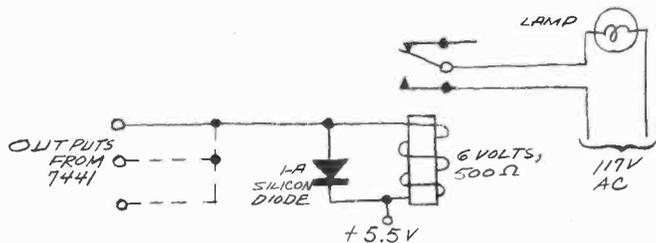

Fig. 5. As many as 10 relays can be used to control various home appliances.
**Burglar Deceiver.** Now that you know how to build both a programmable square-wave generator and a fairly fancy LED flasher, how do you "randomly" switch your house lights and perhaps a radio on and off to keep the burglars away? Simply increase  $C1$  to  $50\ \mu\text{F}$  and  $R1$  to 10 megohms to get a clock cycle of about ten minutes for a total timing period of 100 minutes. Then connect outputs from the 7441 to suitable relays whose contacts control lamps or radios in various rooms of your house. Install a 1-A rectifier diode across each relay coil as shown in Fig. 5.